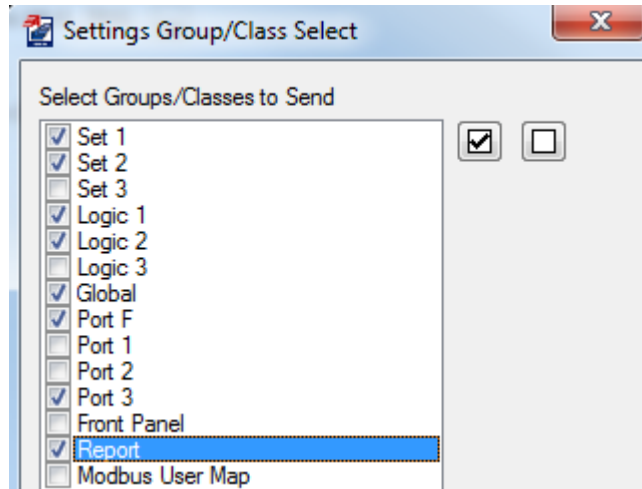

Figure 87: Send Modified Settings to the SEL-710
76. Send your settings (File, Send...) to the SEL-710. In the window that appears, check the boxes for the Set 1, Logic 1, Global, Port F, Port 3, and Report settings (Figure 87). Click Ok. Sending only the modified settings shortens the file transfer time. Ignore any error messages associated with changing the baud rate. Since it can take several minutes to transfer the relay settings, now is a good time to start constructing the circuit.